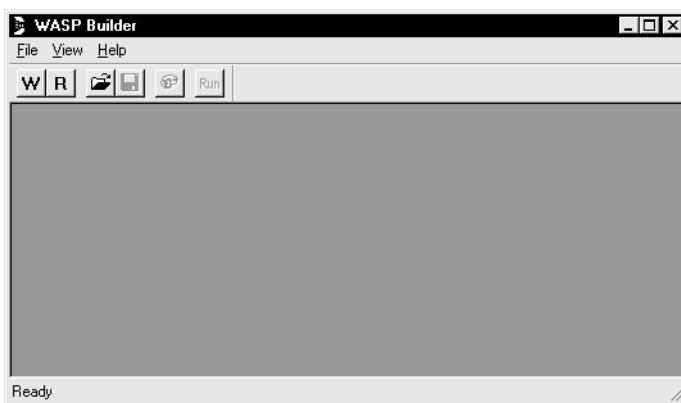

Figure 4: Main Display Window.
3. The window shown in *Figure 4* will be displayed.